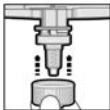
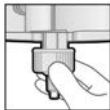

Fig. 3
Fig. 4.1
5. Once the mixing tip is in the correct position (Fig. 3), push the Dynamix fixation ring over the mixing tip until it stops and turn it to the right (1/4 turn) until it is securely locked in place. (Figs. 4.1, 4.2, 5)